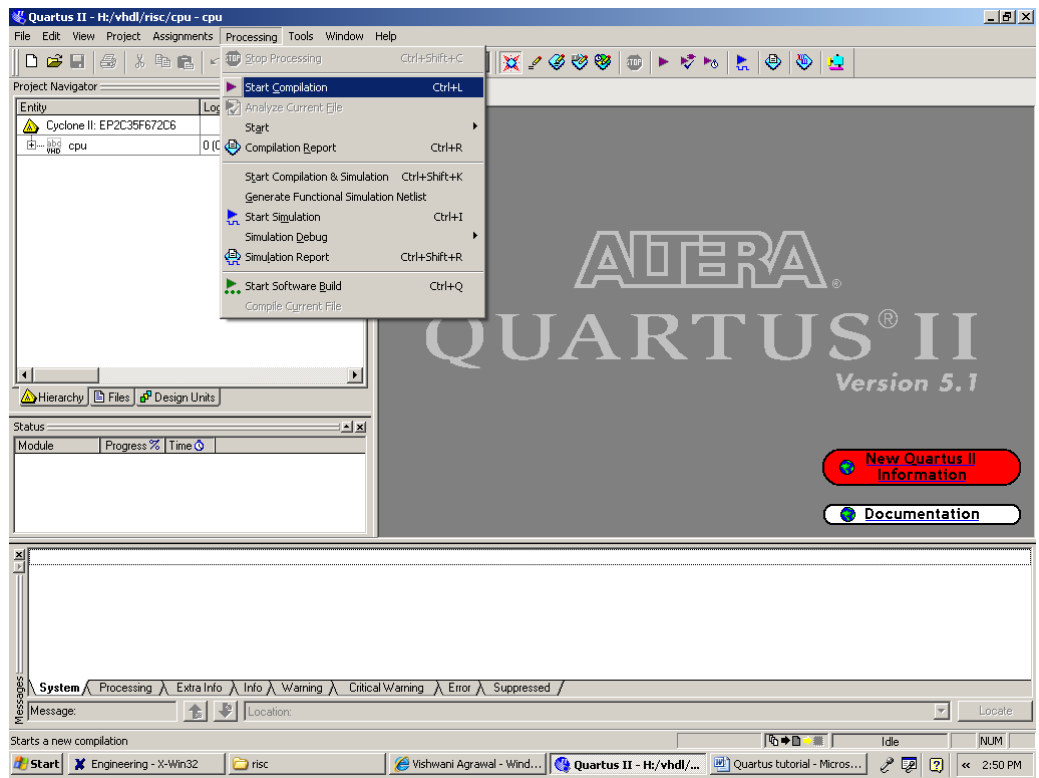
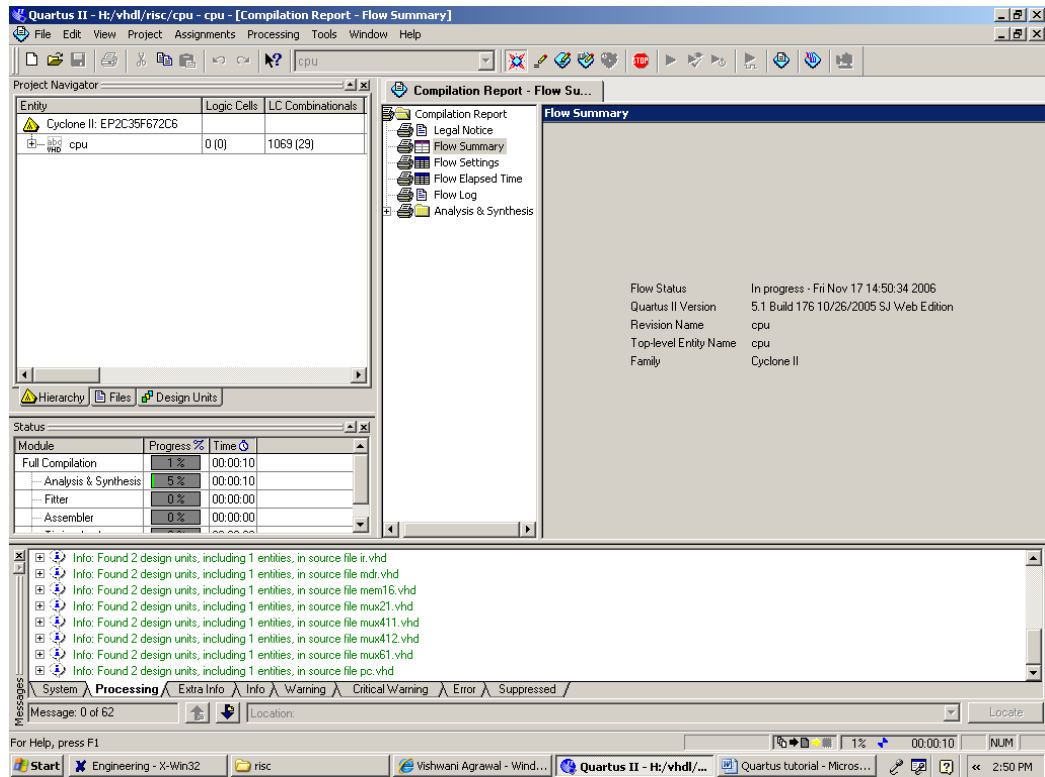
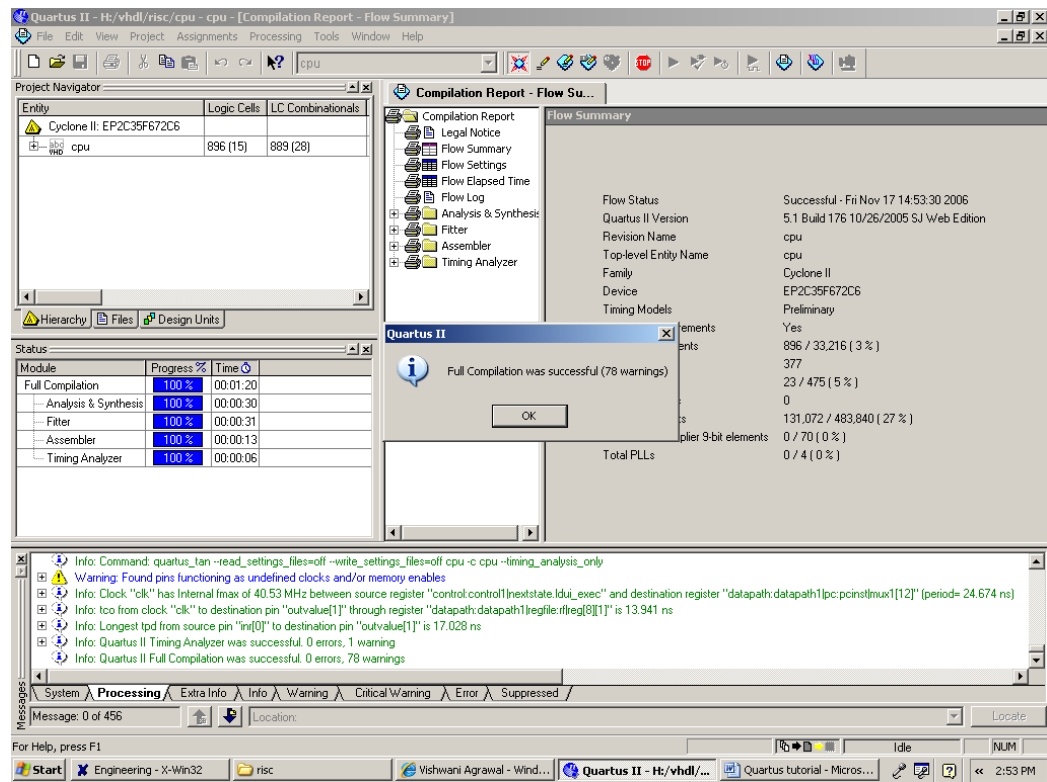

Fig. 10
Fig. 11
Fig. 12
9) The VHDL code in the file is processed by several Quartus II tools that analyze the code, synthesize the circuit, and generate an implementation of it for the target chip. These tools are controlled by the application program called the *Compiler*. Run the Compiler by selecting Processing >Start Compilation, or by clicking on the toolbar icon that looks like a purple triangle as shown in Figure 10. As the compilation moves through various stages, its progress is reported in a window on the left side of the Quartus II display as shown in Figure 11. Successful (or unsuccessful) compilation is indicated in a pop-up box. Acknowledge it by clicking OK, which leads to the Quartus II display as shown in Figure 12. In the message window, at the bottom of the figure, various messages are displayed. In case of errors, there will be appropriate messages given. When the compilation is finished, a compilation report is produced. This window can be opened at any time either by selecting Processing >Compilation Report or by clicking on the icon. The report includes a number of sections listed on the left side of its window.